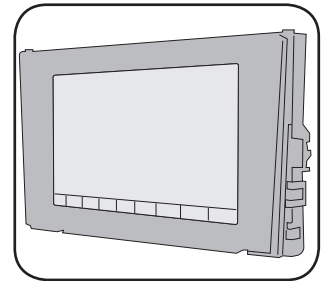
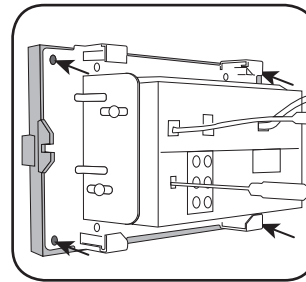

Fig. 2.2
Fig. 2.3
- Place VW1 bezel onto the mounting bracket (Fig. 2.2), securing it with the four (4) Phillips screws included with the VW1 kit. (Fig. 2.3)